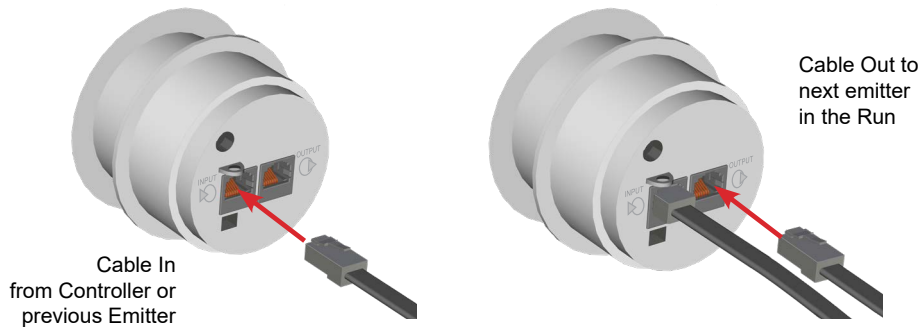

Figure 13. Correctly Wire Emitters
6. Connect a cable to the output of the installed emitter (Figure 13) and run that cable to the next emitter location. Install the next emitter in the run. Connect that output cable to the input port of the newly installed emitter and repeat Step 5, above.